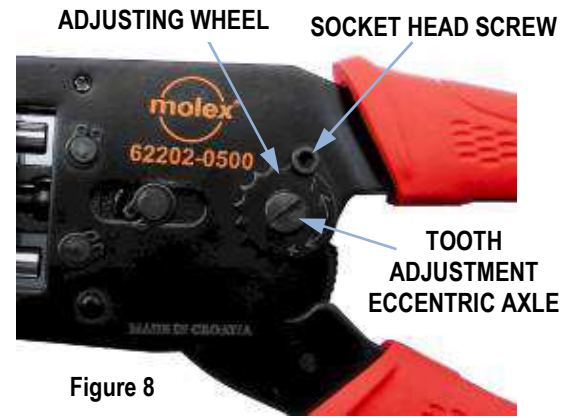

Figure 8
2. Using a screw driver turn eccentric axle and toothed adjustment wheel into new position. See Figure 8.